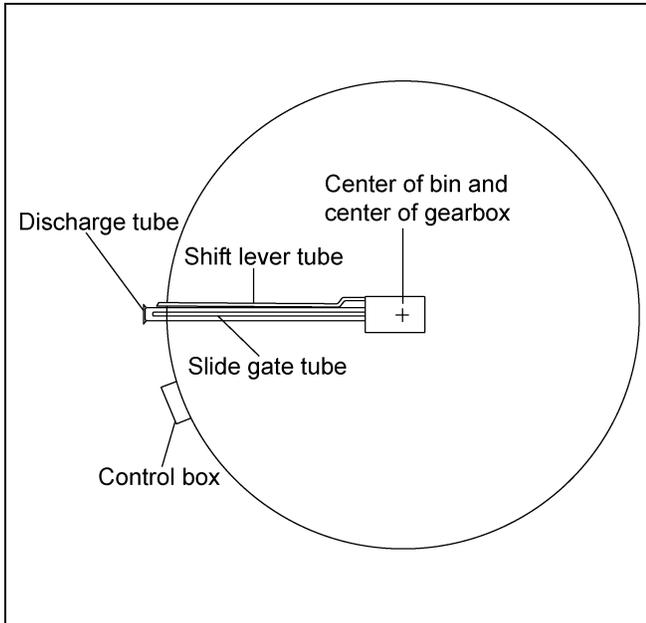

Figure 5G
9. Set the Grain Flow sump in the center of the bin with the discharge opening pointed in the proper direction. Adjust the legs to the correct height and level to the drying floor. Finish by tightening the jam nuts on the leveling legs. BE SURE the sump is centered in the bin to avoid the floor augers hitting the wall. (See Figure 5G on Page 19.)